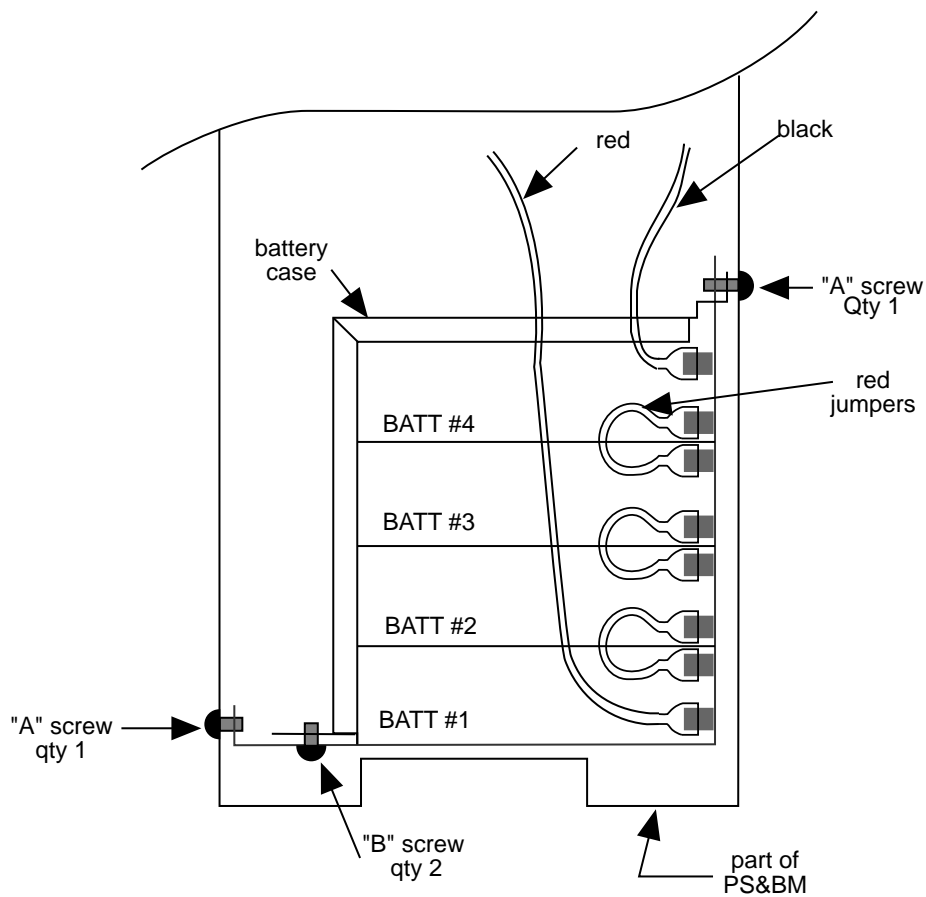

Figure A-6. Battery Module of the MAP/100
2. Remove the screws marked "A" from the PS&BM as shown in Figure A-6.
7. Remove the two screws marked "B" in Figure A-6 from the bottom of the battery case.
1. Install the four batteries in the two pieces of sheet metal that make up the battery case with their terminals oriented as shown in Figure A-6.
3. Connect the batteries together with the three red jumpers as shown in Figure A-6.